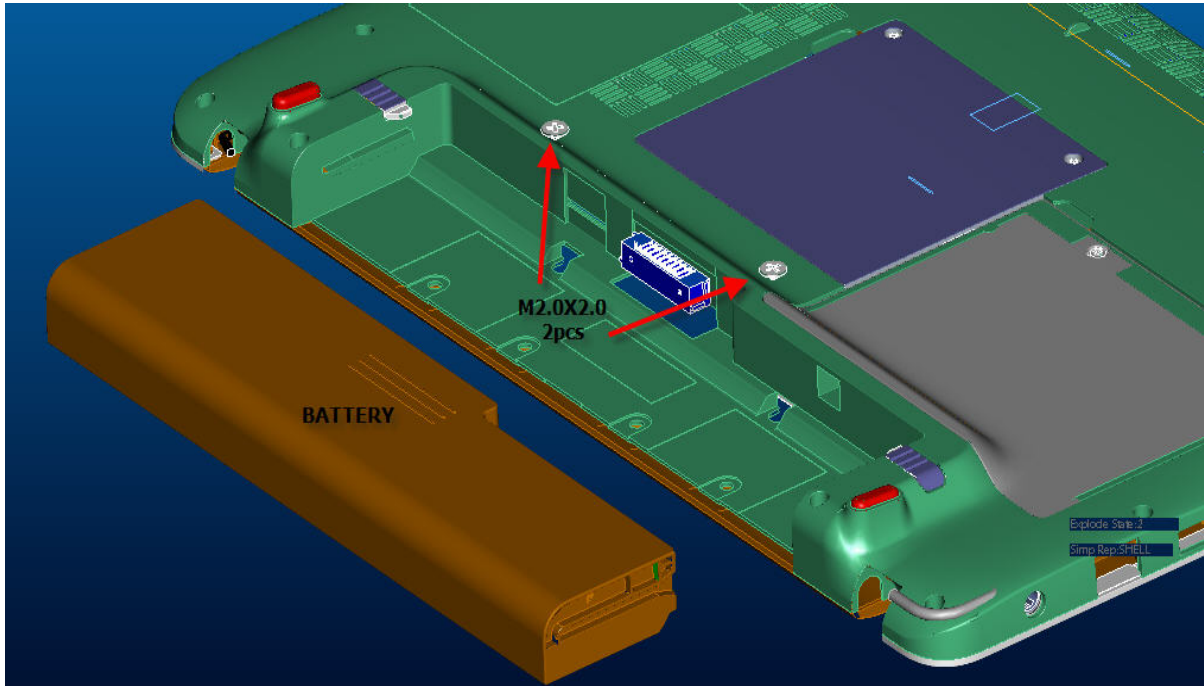

Figure 4-5-1 Remove 2 screws for KB Holder
The following describes the procedure for removing the keyboard (See Figure 4-5-1 to 4-5-2).
5. Disassemble **KB Holder** and **KB** screw (See Figure 4-5-1)